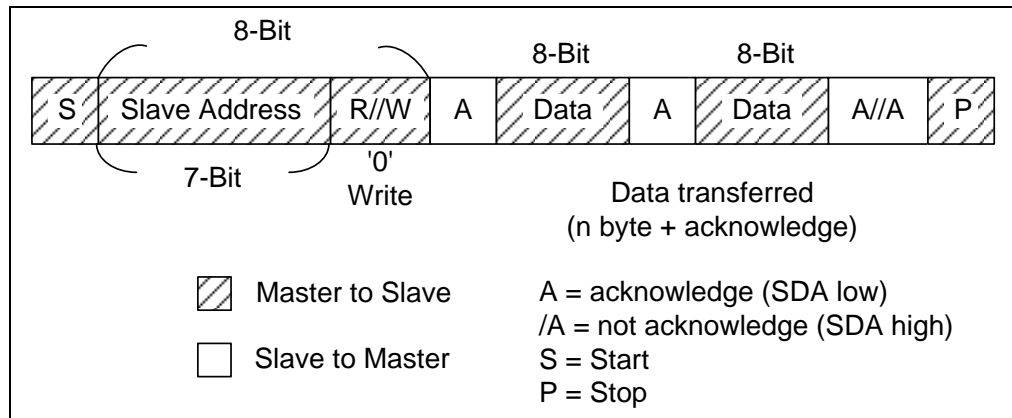
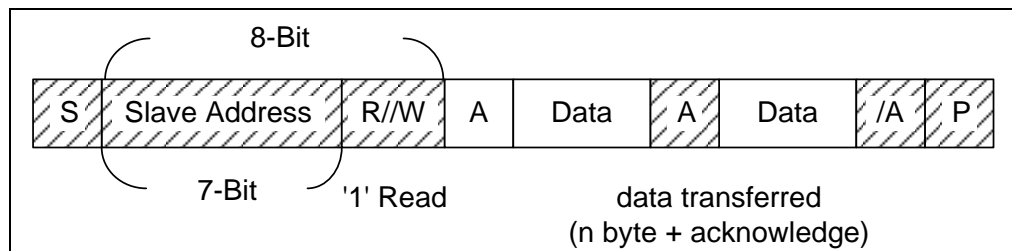

Figure 6-17a Master-Transmitter transmits to Slave-Receiver with 7-Bit Slave Address
Figure 6-17b Master-Receiver reads from Slave-Transmitter with 7-Bit Slave Address
The Master reads the Slave immediately after the first byte. At the moment of the first acknowledgement, the Master-transmitter becomes a Master-receiver and the Slave-Receiver becomes a Slave-transmitter. This first acknowledgement is still generated by the Slave. The STOP condition is generated by the Master, which has previously sent a Not-Acknowledge (A). The difference between Master-transmitter and Master-receiver is only in the R/W bit. If the R/W bit is "0," the Master device is the Transmitter. Otherwise; the Master device is the Receiver (R/W bit is "1"). The Master-Transmitter is illustrated in the following Figure 6-17a, and that of Master-Receiver is shown in Figure 6-17b.